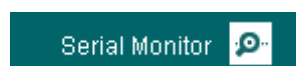

Figure 18.
12. Click icon is “Serial Monitor” as figure 18. to will be shown data about receives and sends data via the serial port.